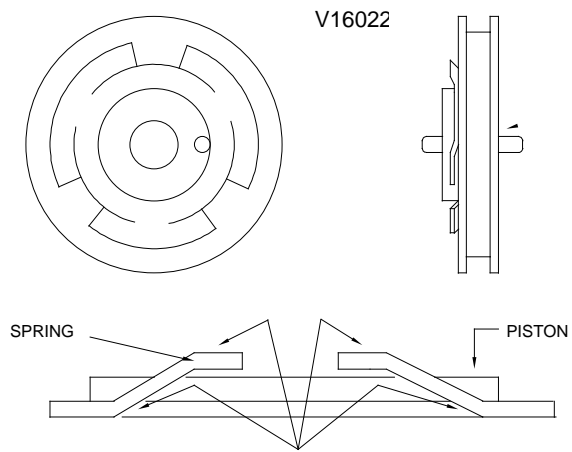
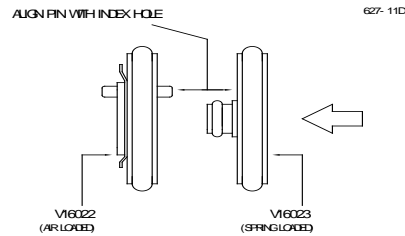

Figure 4-49: Greasing of Spring Pressure Points
Figure 4-50: Valve Base Alignment Pin
19.	Apply KRYTOX 240 AC in both "O" ring grooves of spring-loaded piston (14)
21.	Apply KRYTOX 240 AC grease to each of the fingers of the finger spring (10) of air-loaded piston (11).
22.	Place air loaded piston (11) over the small diameter of spring-loaded piston (14) with finger springs (10) outside. Align piston with guide pin. Refer to Figure 4-50.
23.	Apply a bead of KRYTOX 240 AC grease to the "O" ring air-loaded piston (11) groove. Refer to Figure 4-49.
24.	Install silicone "O" ring (9) and apply grease to the "O" ring outer surface.
25.	Apply a thin film of KRYTOX 240 AC grease to inside of valve body (8) where the pistons (14 and 11) will be sliding.
26.	Insert both pistons (14 and 11) into the bottom of cylinder. Use retaining ring pliers to install the pistons with the guide pin in the hole of the valve body (8). Refer to Figure 4-50.